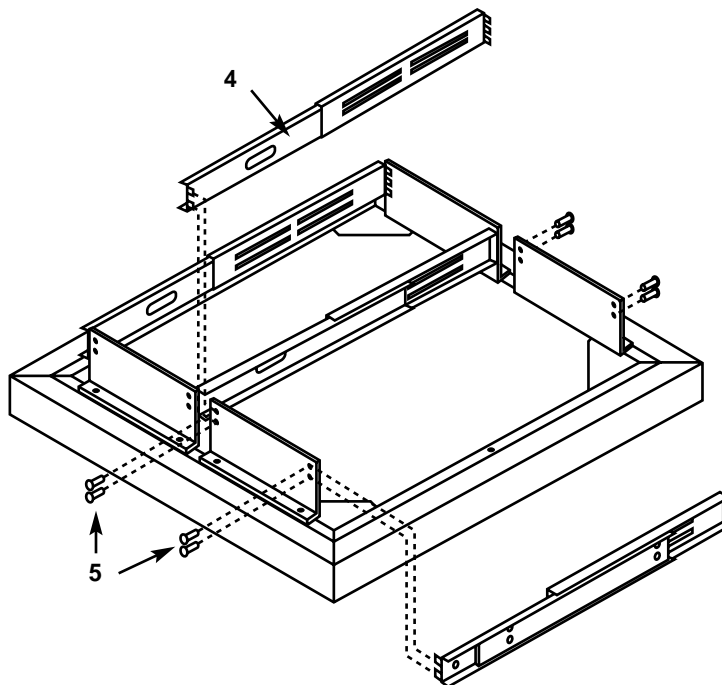

Figure 3. Attaching the slide-bracket assemblies.
2. One at a time, extend the slide-bracket assemblies (item 4) so they stretch across the base, between the matching pairs of support plates. Attach each assembly to the support plates with four of the included 10-32 x $\frac{1}{2}$ " panhead screws (item 5), as shown in Figure 3. Tighten the screws securely while keeping each assembly tight against the side of the plate.